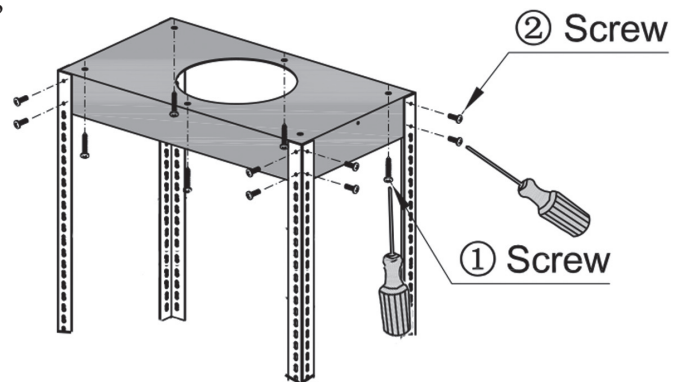

Figure 1
- 2 Attach the transition piece and ducting to top of the hood. (Figures 1 and 2)